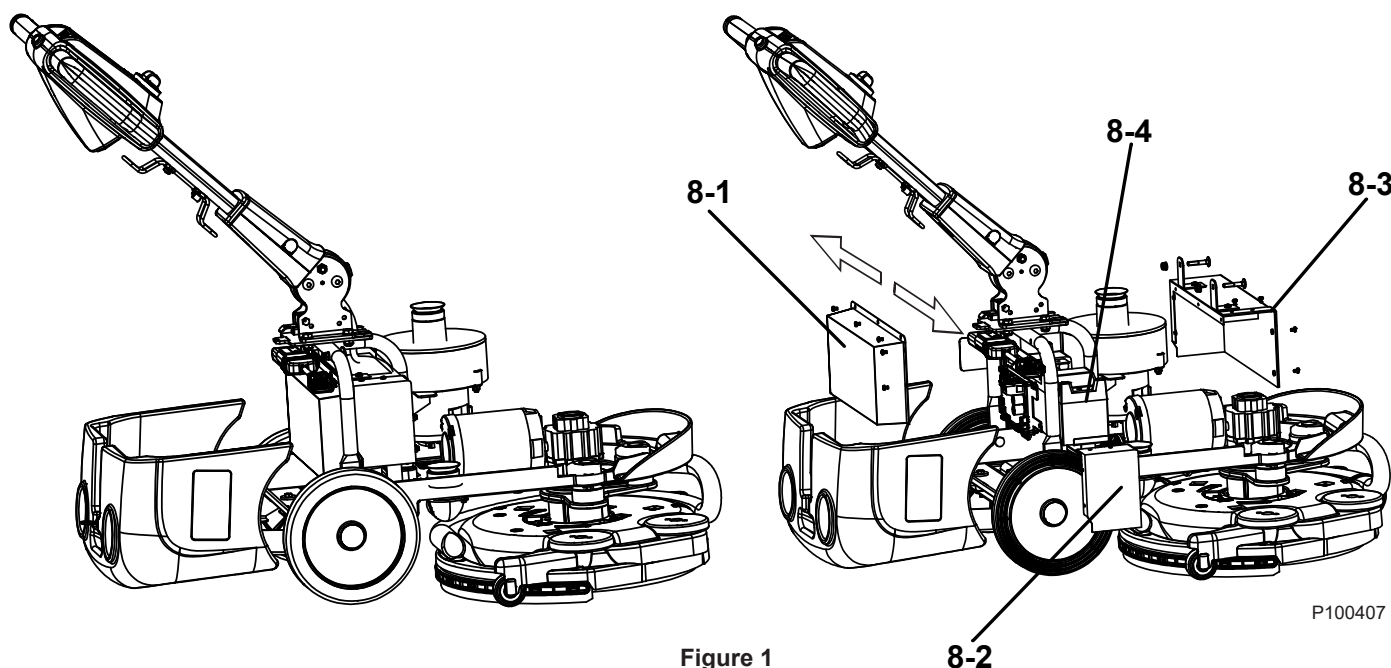

Figure 1
1. First of all, turn the function selection knob (31) to "0" to turn off the machine.
2. Open the cover (4) and take down the transparent cover (24), solution tank (22) and recovery tank (23). (Fig.1 left)
3. Loosen the screws to take down the cover in the order of rear cover (8-1), side cover (8-2) and front cover (8-3). (Fig.1 right)